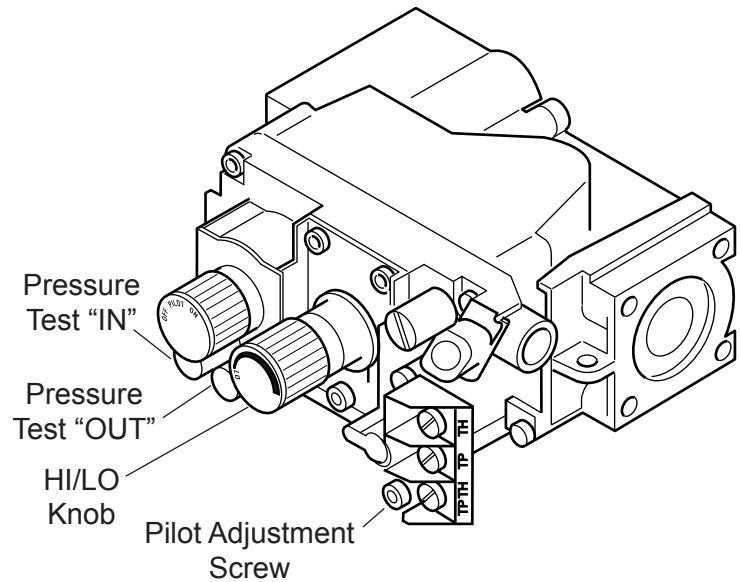

Figure 18 - Gas Pressure Check at Gas Valve
5. To check gas pressures at valve, turn captured screw counter clockwise 2 or 3 turns and then place tubing to pressure gauge over test point. Turn unit to high. See *Figure 18*. After taking pressure reading, be sure and turn captured screw clockwise firmly to reseal. Do not over torque. Check test points for gas leaks.